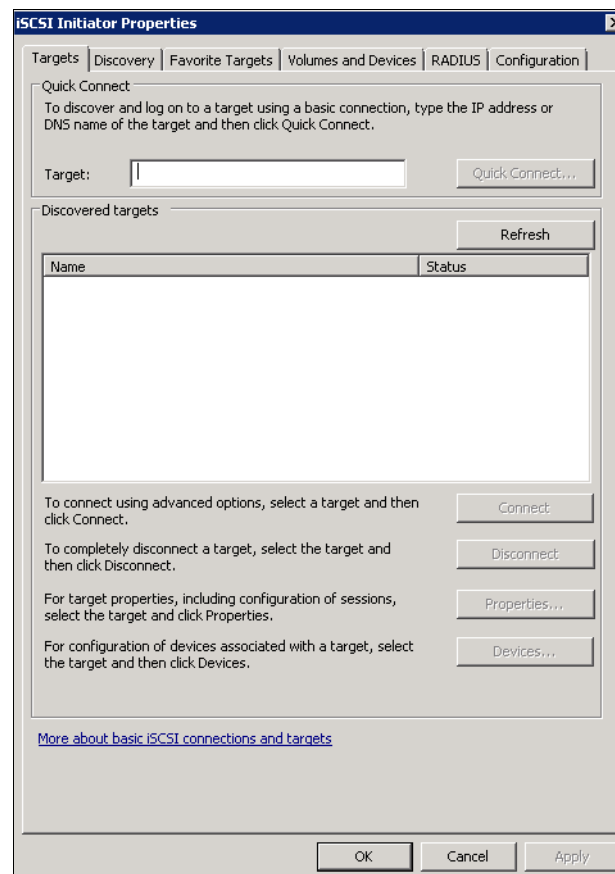

Figure 5-33 Windows iSCSI Configuration tab
2. Log on to your Windows 2008 host and click **Start** → **Administrative Tools** → **iSCSI Initiator** to open the iSCSI Configuration tab (Figure 5-33).